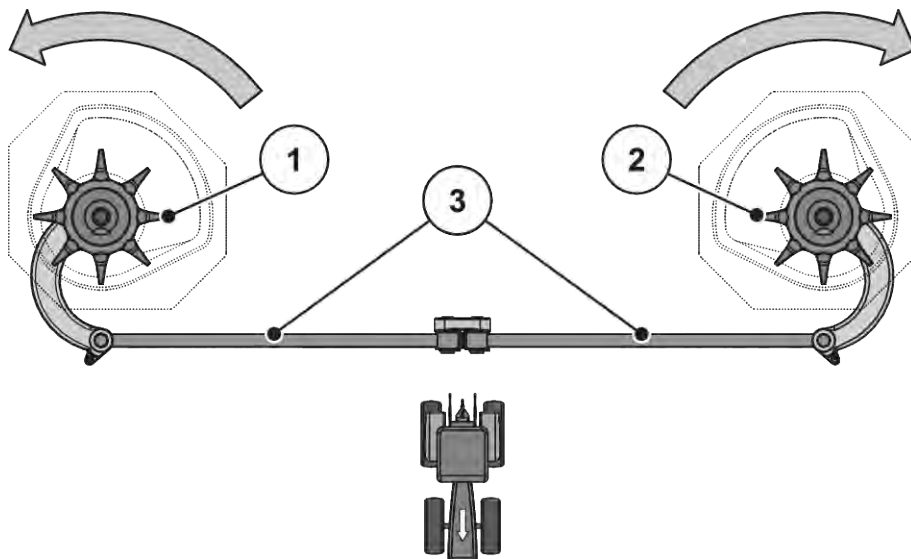

Fig. 53: Checking the agitator drive
- Manually turn the agitator head **into the rotational direction of the spreading disc**. See Fig. 53 Checking the agitator drive.
- Turn the agitator head manually or with the help of an oil filter belt forcefully **against the rotational direction of the spreading disc**. See Fig. 53 Checking the agitator drive